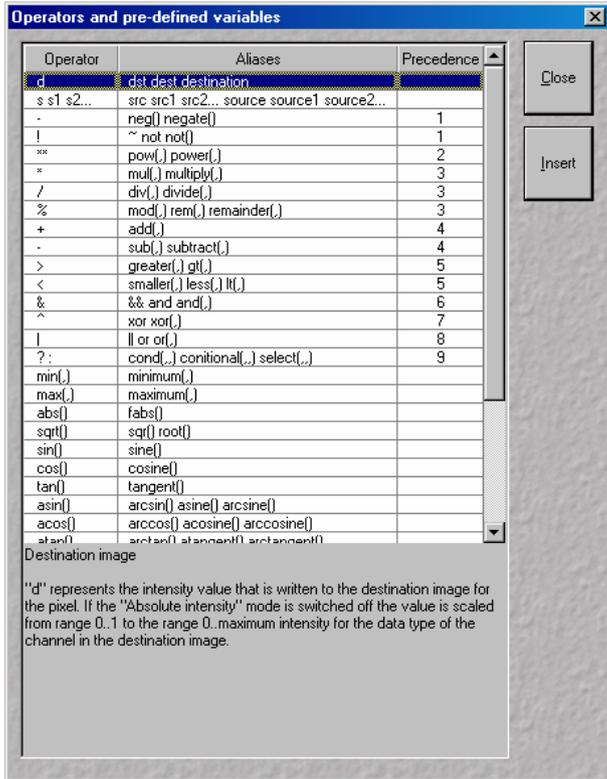

Fig. 4-158 Operators window
- Select the operator(s) from this list (Fig. 4-158) and click the **Insert** button.